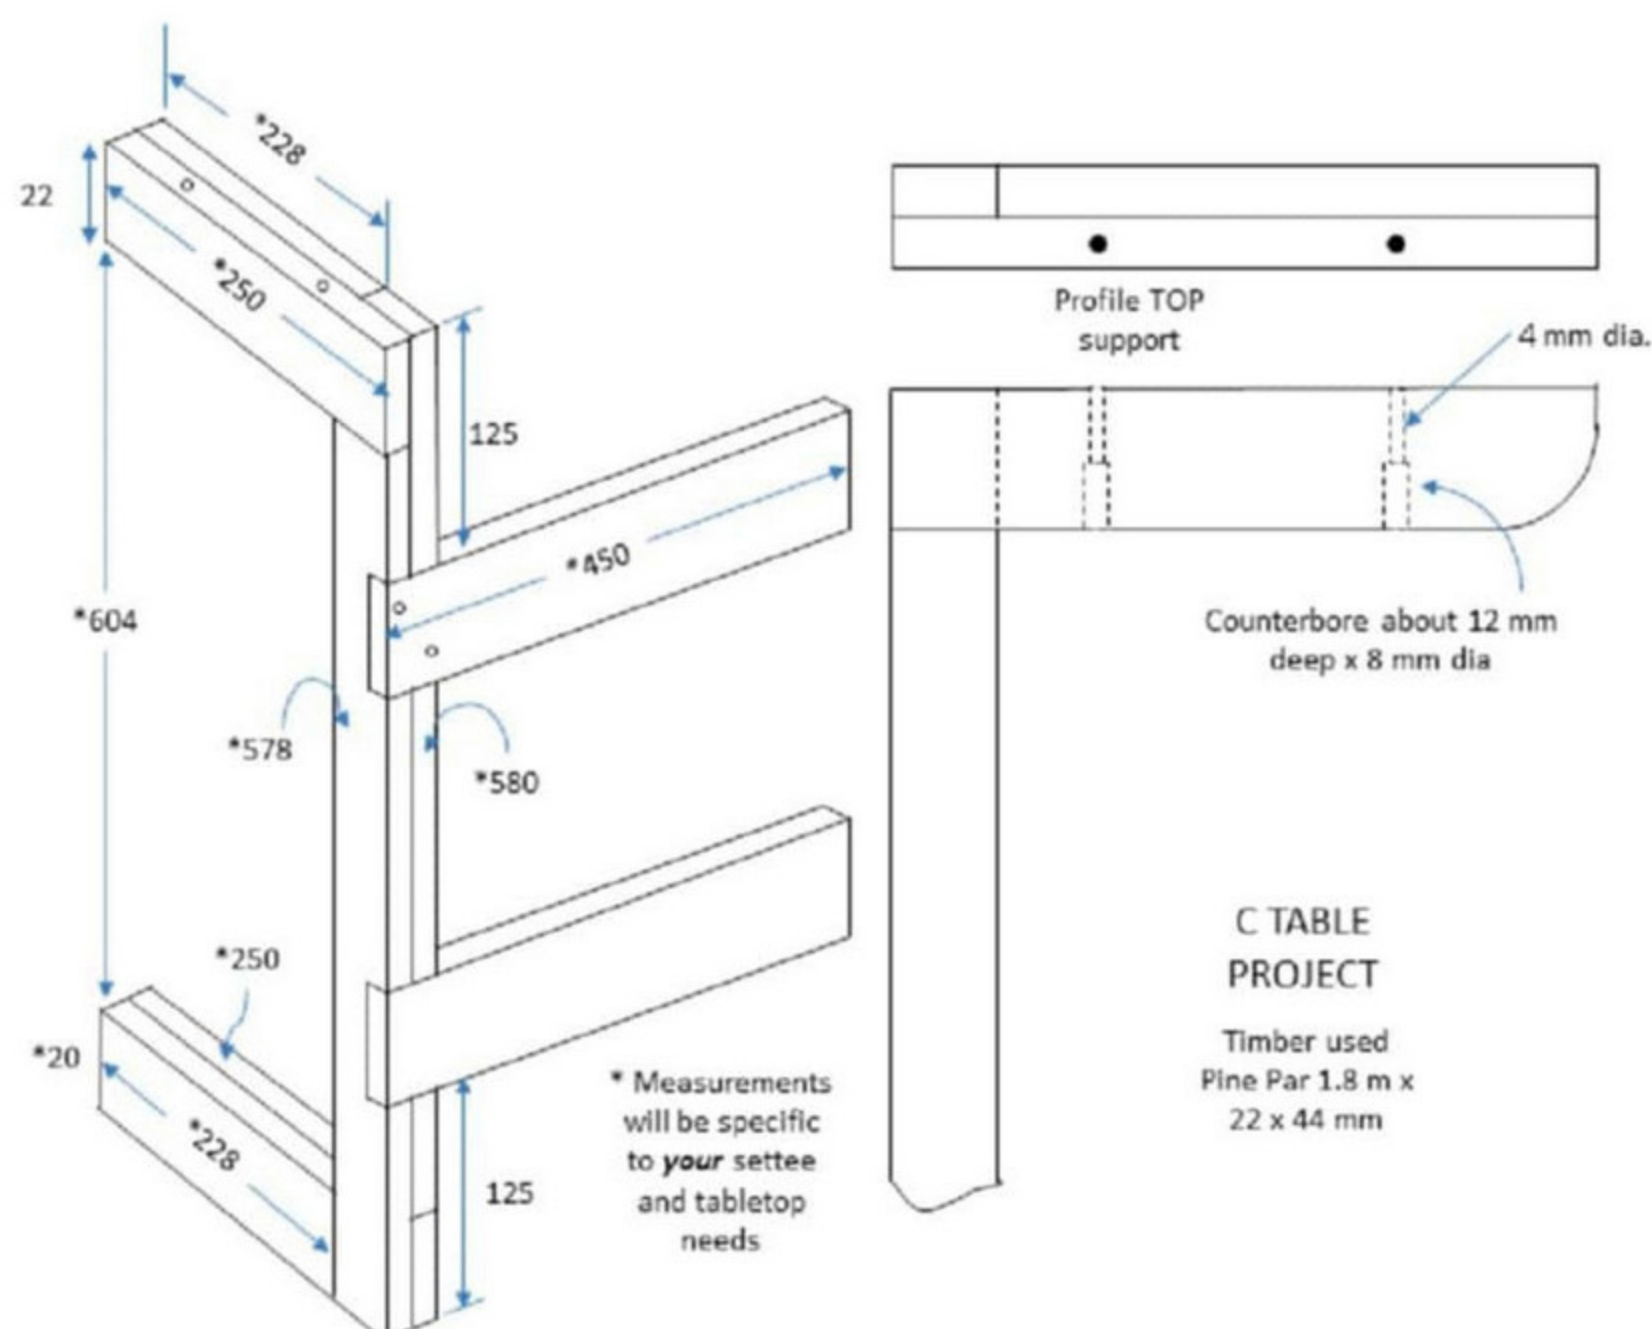

Fig. 1: Cutting list and joining
- Timber: 3 x 1.8m x 44 x 22 Pine Par (see Fig 1. for the cutting list)
Depending upon your measurements (see Fig. 1) cut the timber to the lengths you need. Remember the old adage of measuring twice before cutting, mark out the cut line with an adjustable square, so that if you're using a hand saw/back saw you don't cut at an angle which is not a right angle and you remember to allow for the thickness of the saw cut. Or, of course, you can get the guy at the timber shop to cut everything to length on the table saw.